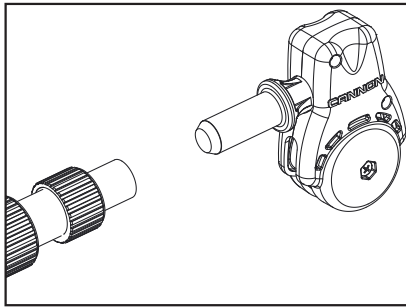

Figure 9
1. Locate swivel head assembly and then insert boom end post into end of the small tube of the boom assembly. (Figure 9)